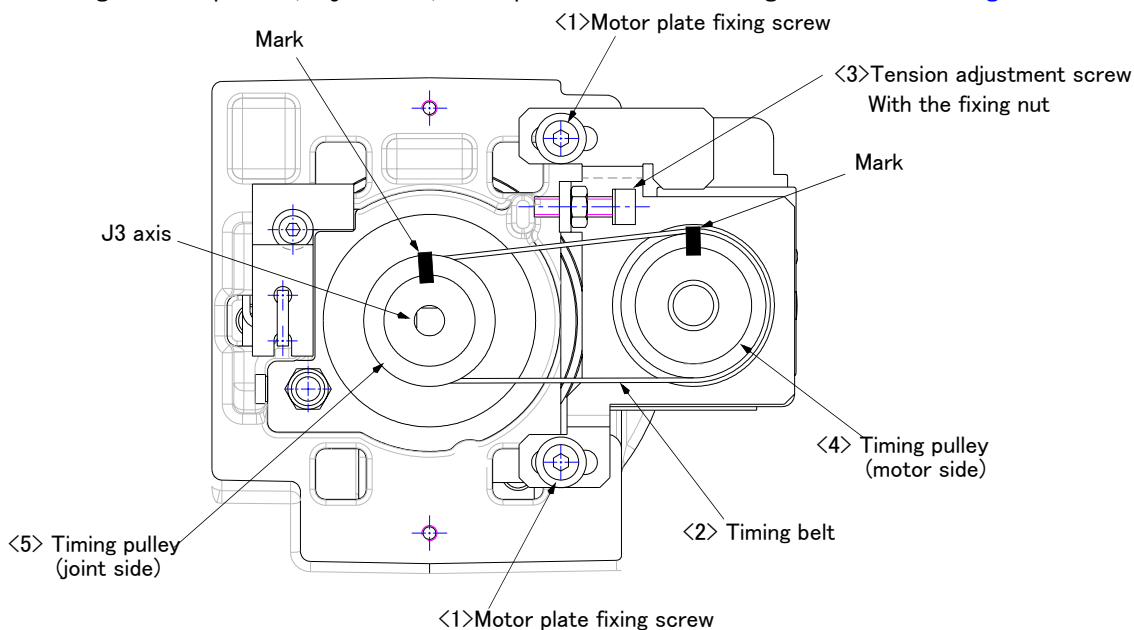

Fig.5-8 : Inspection, maintenance and replacement of J4 axis timing belt
The reference figure at inspection, adjustment, and replacement of the timing belt is shown in Fig. 5-8.
- 3) Make marks on the timing belt <2> and timing pulleys <4> and <5> with a felt-tip pen as shown in Fig. 5-8 so that the engagement of the timing belt <2> and timing pulleys <4> and <5> does not deviate.
- 8) Refer to "■ Adjusting the J4 axis timing belt" and "(8) Timing belt tension" to adjust the tension.